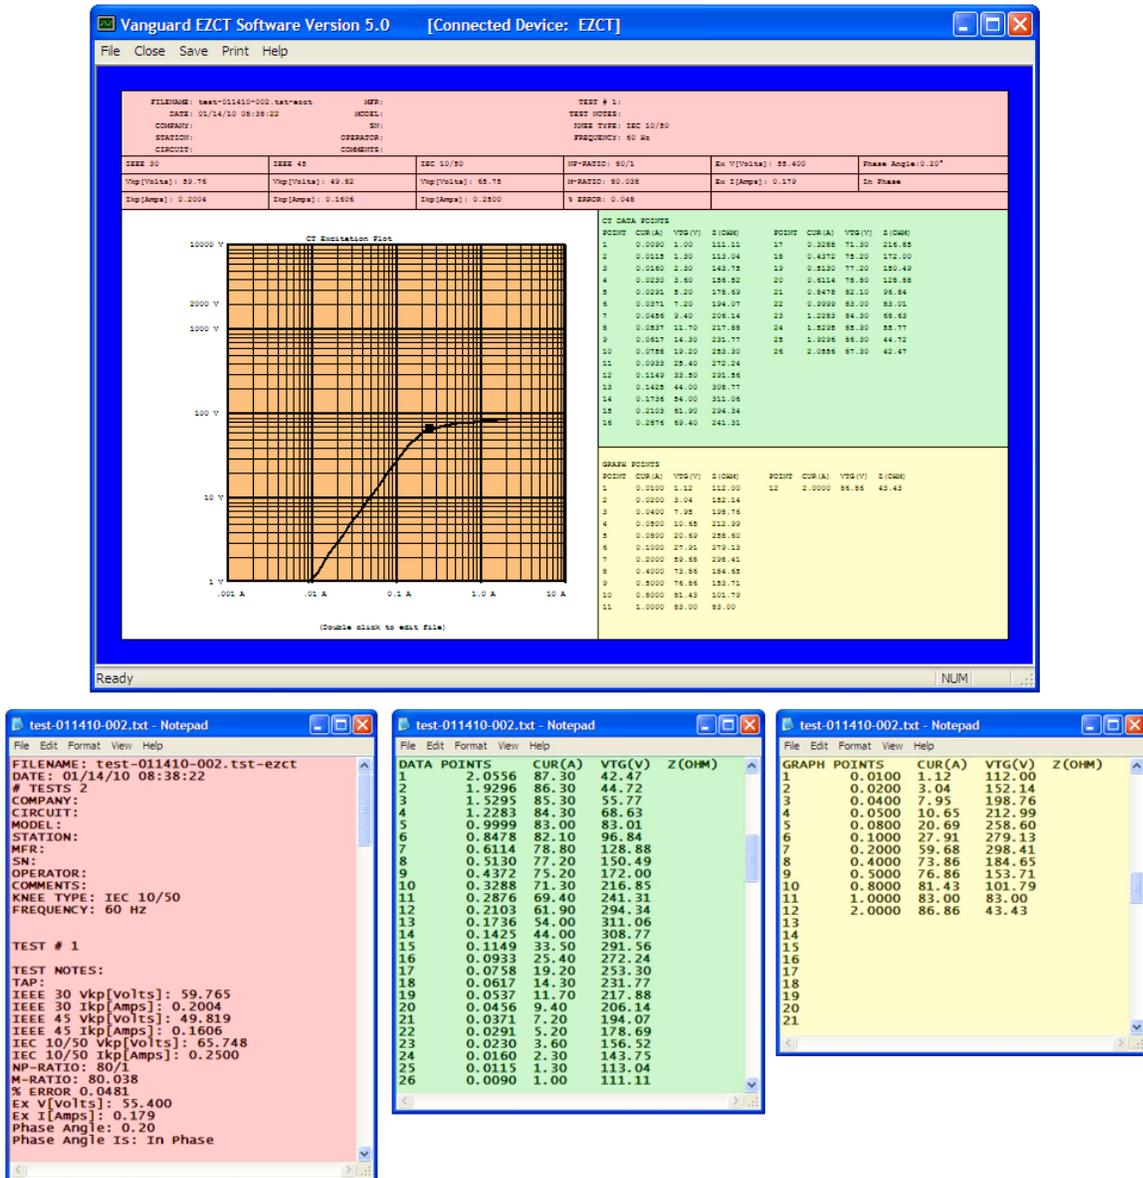

Figure 2. Test Record in EZCT Software (top) and in Plain Text Format (bottom)
- Browse to the folder where you would like the text file(s) to be saved and click on the "OK" button. Figure 2 shows a test record in the EZCT software compared with the exported data in plain text format.